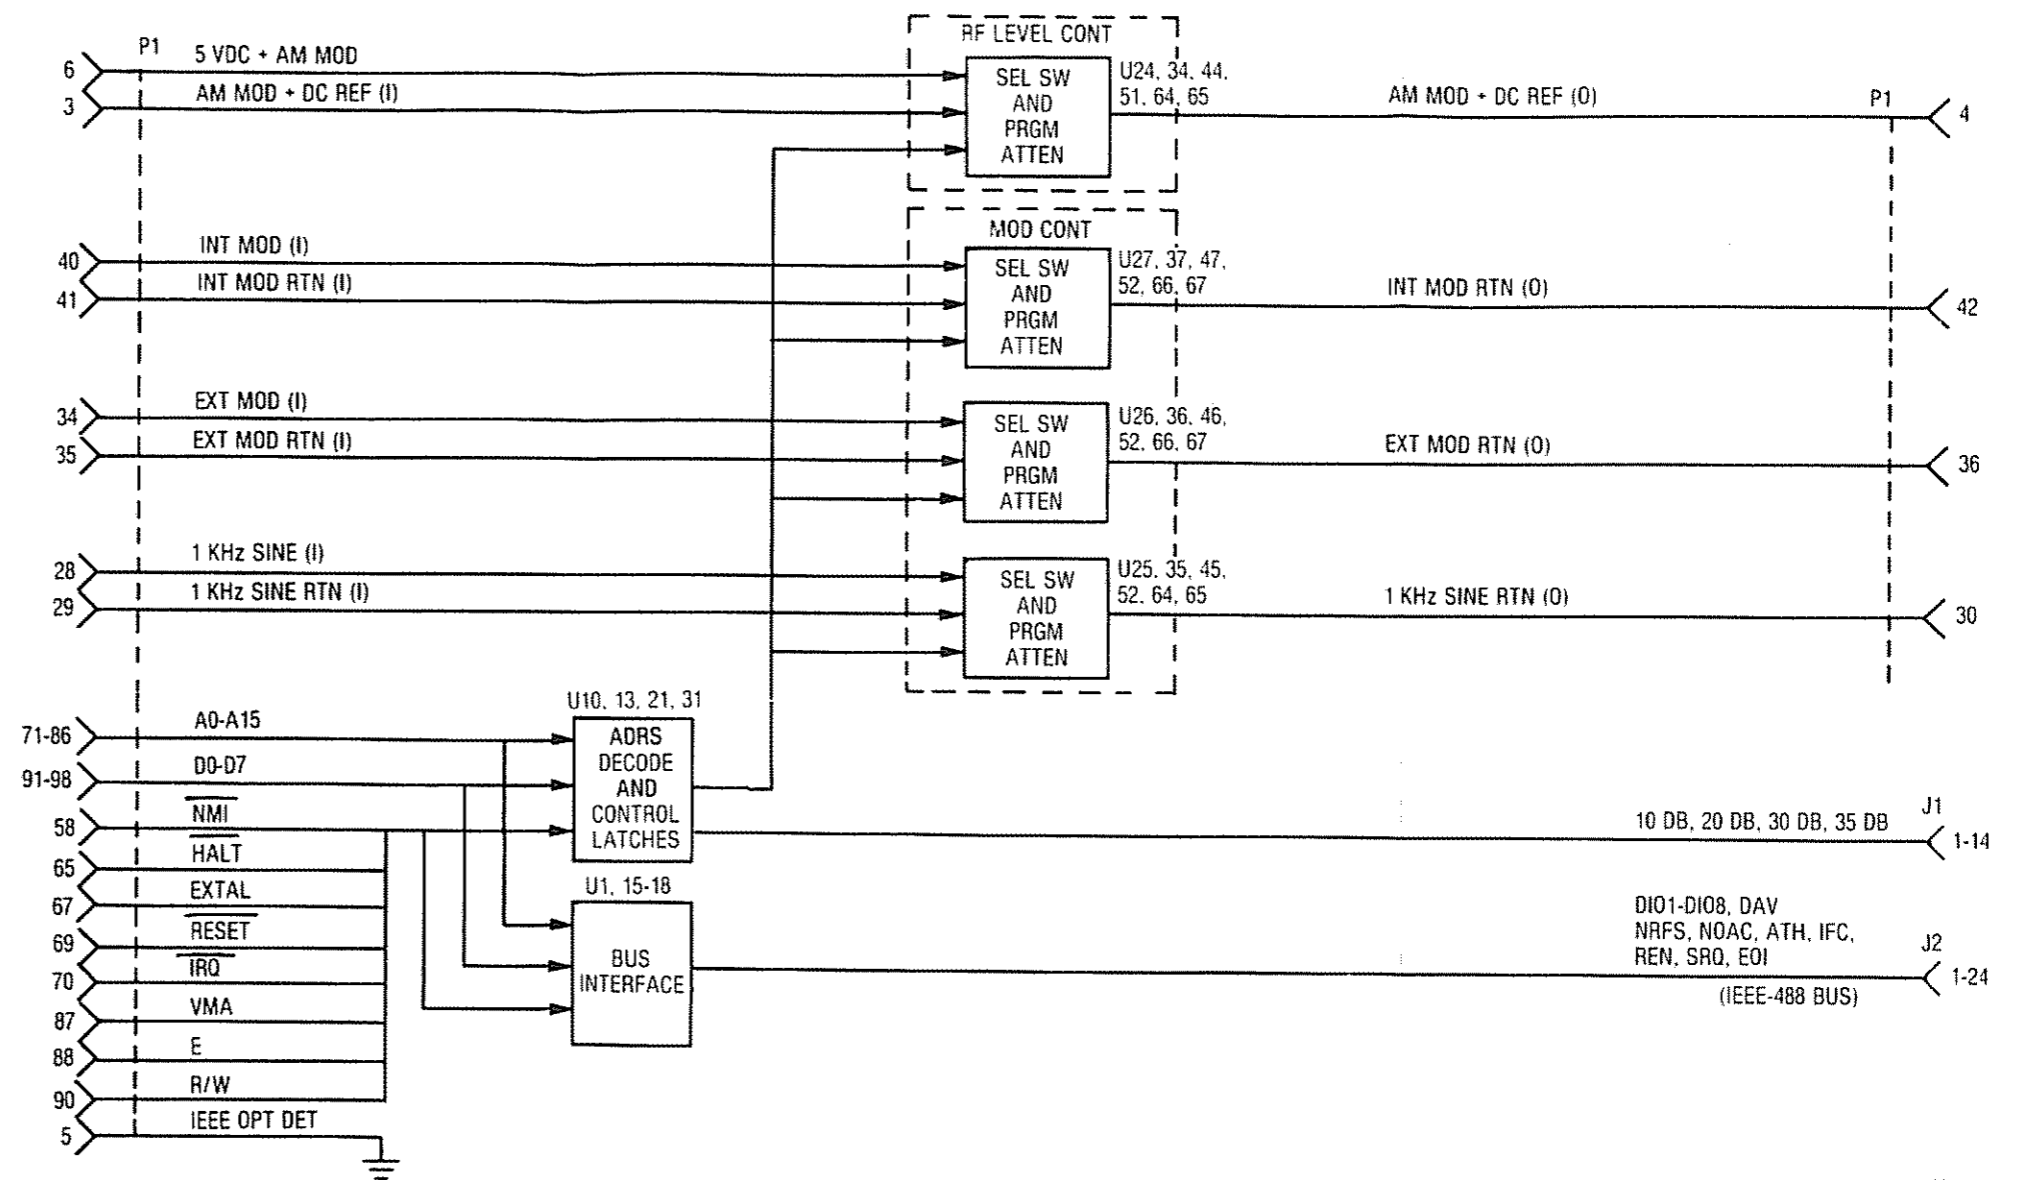

Figure 14-1. IEEE Interface Module A8 Block Diagram
**14-1. General.** Remote control of the system is possible using a IEEE-488 bus and the IEEE Interface Module. The Interface Module provides the interface for the 488 bus and provides for processor control of most of the functions normally controlled from the front panel. A block diagram of the IEEE Interface Module is shown in figure 14-1 with its schematic shown in figure 14-2. See section 22 for information on the use of the IEEE Bus for system control.
**14-3. RF Level Control.** The RF Level Control circuitry selects between the 5 VDC + AM MOD or the AM MOD + DC REF (I) input for remote or local control respectively. For remote control the 5 VDC + AM MOD input is electronically attenuated to provide the requested RF output level. For local control the attenuator is programmed for unity gain so that the AM MOD + DC REF (I) signal from the front panel RF level potentiometer controls the RF output level.